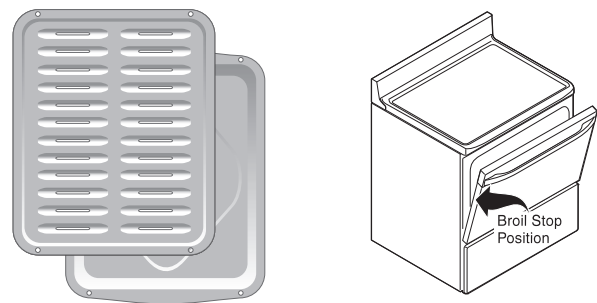

Figure 15: Broil pan and insert (L); Door in broil stop position (R)
6. Place the broiler pan and insert on the oven rack. Broil with oven door open to the broil stop position (Figure 15).